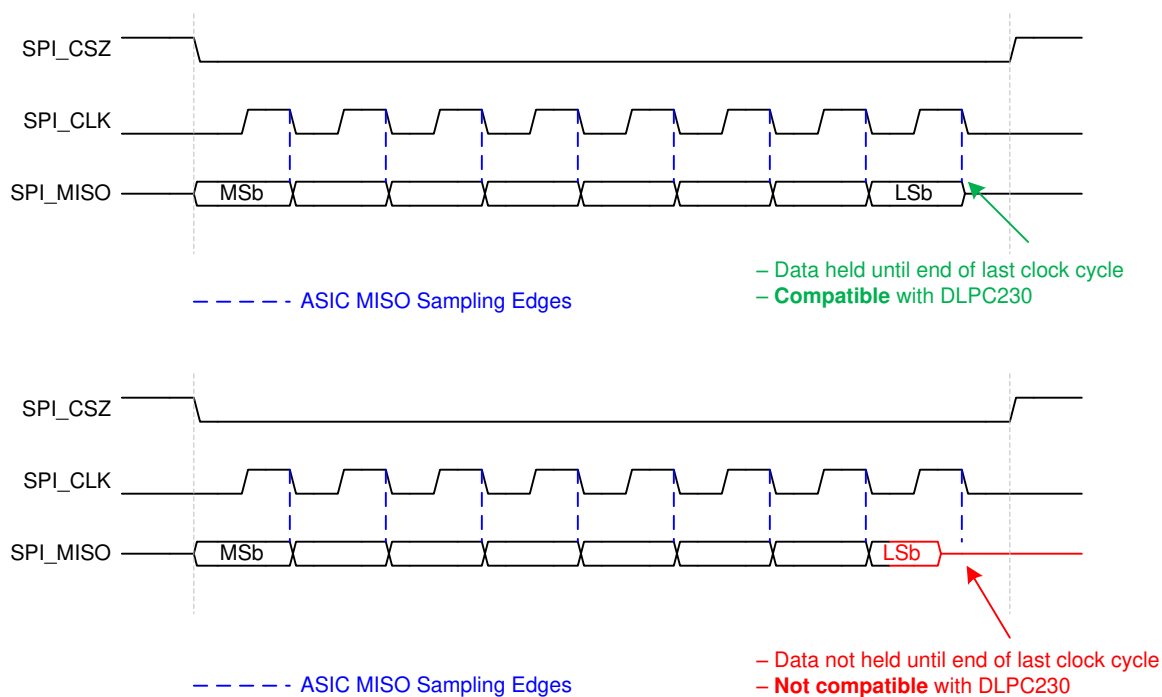

图 5-8. Flash Interface Data Capture Requirements
- (1) The DLPC23x-Q1 communicates with flash devices using a slight variant of SPI Transfer Mode 0 (that is, clock polarity = 0, clock phase = 0). Instead of capturing MISO data on the clock edge opposite from that used to transmit MOSI data, the DLPC23x-Q1 captures MISO data on the same clock edge used to transmit the next MOSI data. As such, the DLPC23x-Q1 Flash SPI interface requires that MISO data from the flash device remain active until the end of the full clock cycle to allow the last data bit to be captured. This is shown in 图 5-8.
- (2) The actual maximum clock rate driven from the DLPC23x-Q1 can be slightly less than this value.